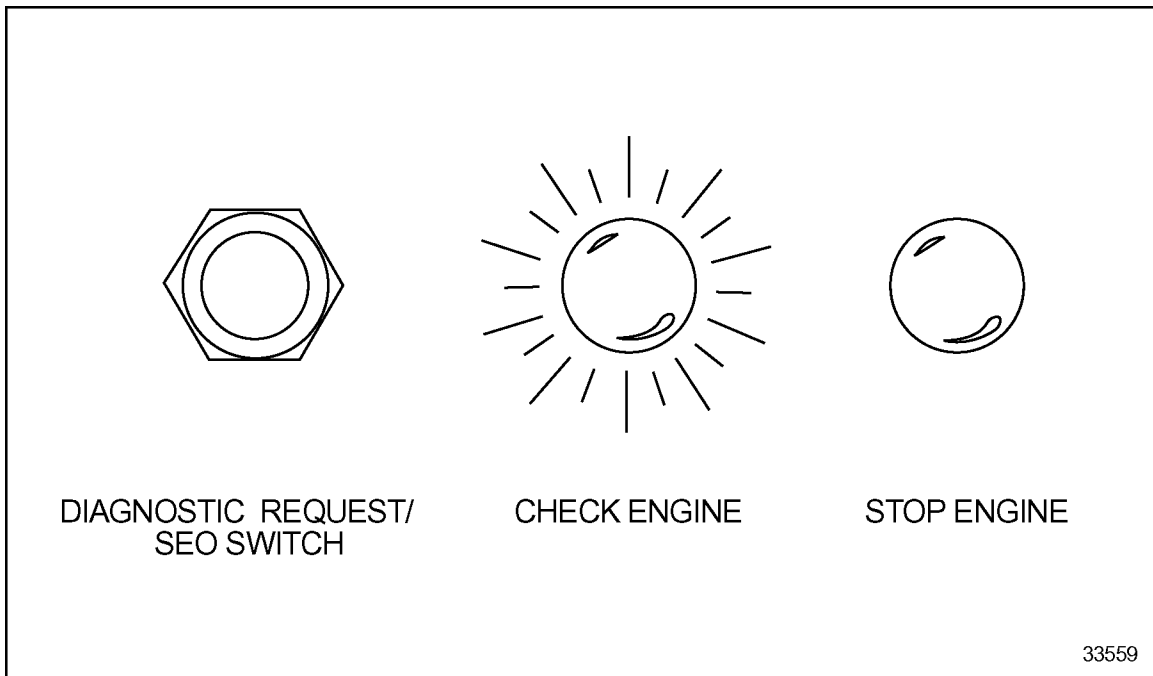

Figure 5-5 Typical Diagnostic Request/SEO Switch and Warning Lights
Instrument panel warning lights (see Figure 5-5), the Check Engine Light (CEL) and the Stop Engine Light (SEL), warn the engine operator. The CEL is an amber light and the SEL is a red light.
- Flashing the CEL and SEL with the Diagnostic Request Switch (may be combined with Stop Engine Override switch, see Figure 5-5)